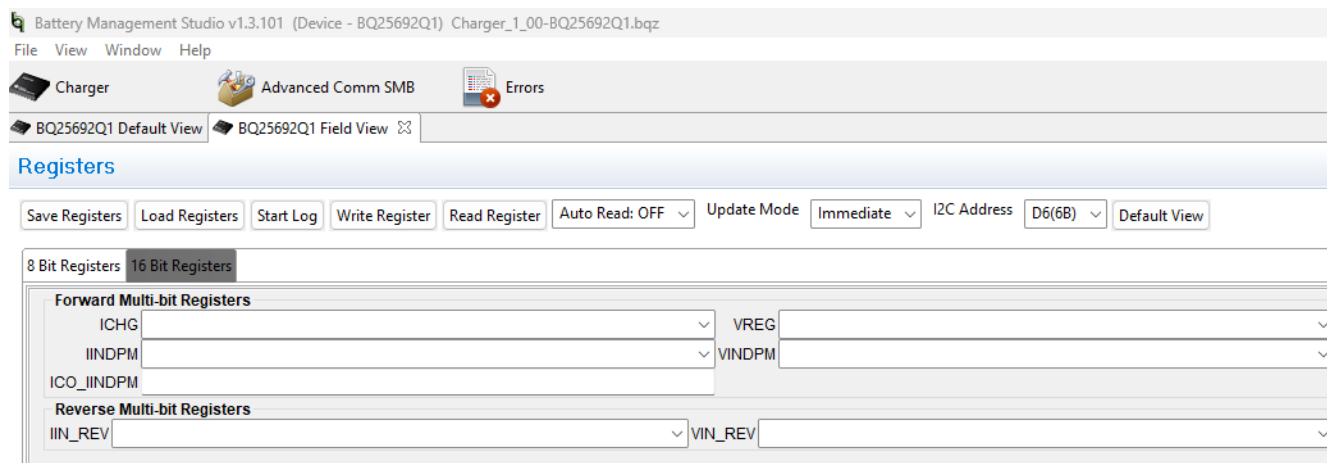

Figure 3-2. Field View of 8 Bit and 16 Bit Register Tabs of BQ25692-Q1 EVM Software
3. Toward the right side of the ribbon on the window that appears select  for the main window of the BQ2569x EVM software to appear, as shown in Figure 3-2.
2. In the Field View (see Figure 3-2), make the following changes as necessary: